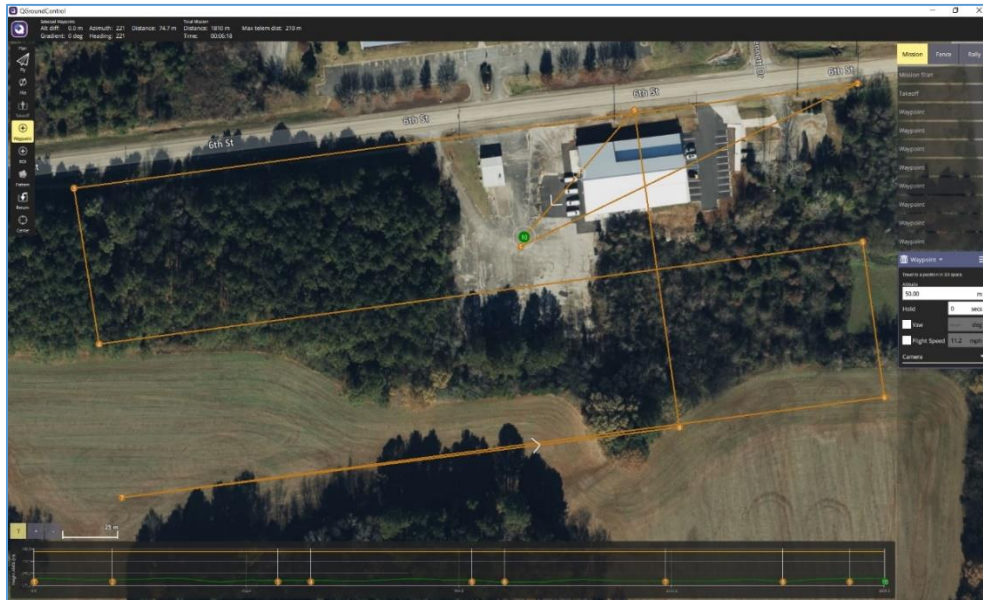

Figure 29: perpendicular flight lines
8. To ensure the line is perpendicular, we recommend measuring the distance from the ending waypoint of the flight line to the previous flight line. In this situation, we are making sure the distance between waypoints 5 and 6 match the distance between 3 and 4 (circled – figure 29). Once measured, waypoint 6 can be moved to start the next flight line.